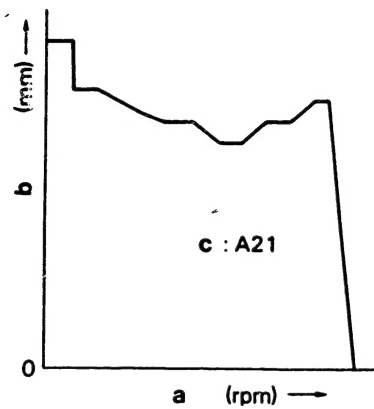

Fig. 1
2. Not only can the fuel injection/quantity characteristics necessary for full-load engine operation be controlled, but the excess fuel injection quantity can be set as required for engine starting by simply replacing the torque cam with a more suitable cam. Figures 1 and 2 for example, show how the engine speed response of the governor changes when the torque cam is changed.